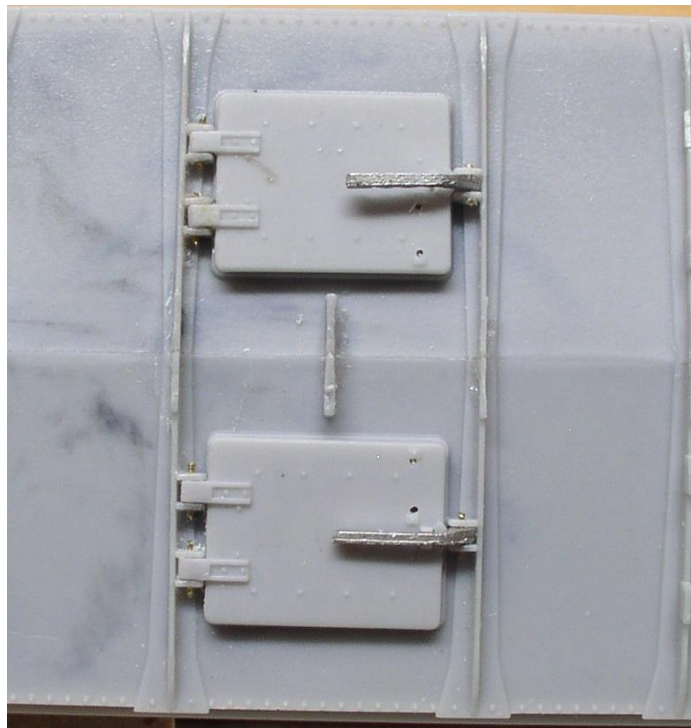

Figure OH8
- Cut pieces of 0.014" rod 8 inches long and slide into the holes in the hinge brackets and the hinges. Test to see if the hatch opens freely enough. Don't force it. More material may need to be removed from the radius of the piece of plastic. If all is well, glue the pieces of rod in place on the outside of the hinge brackets. See figure OH8.